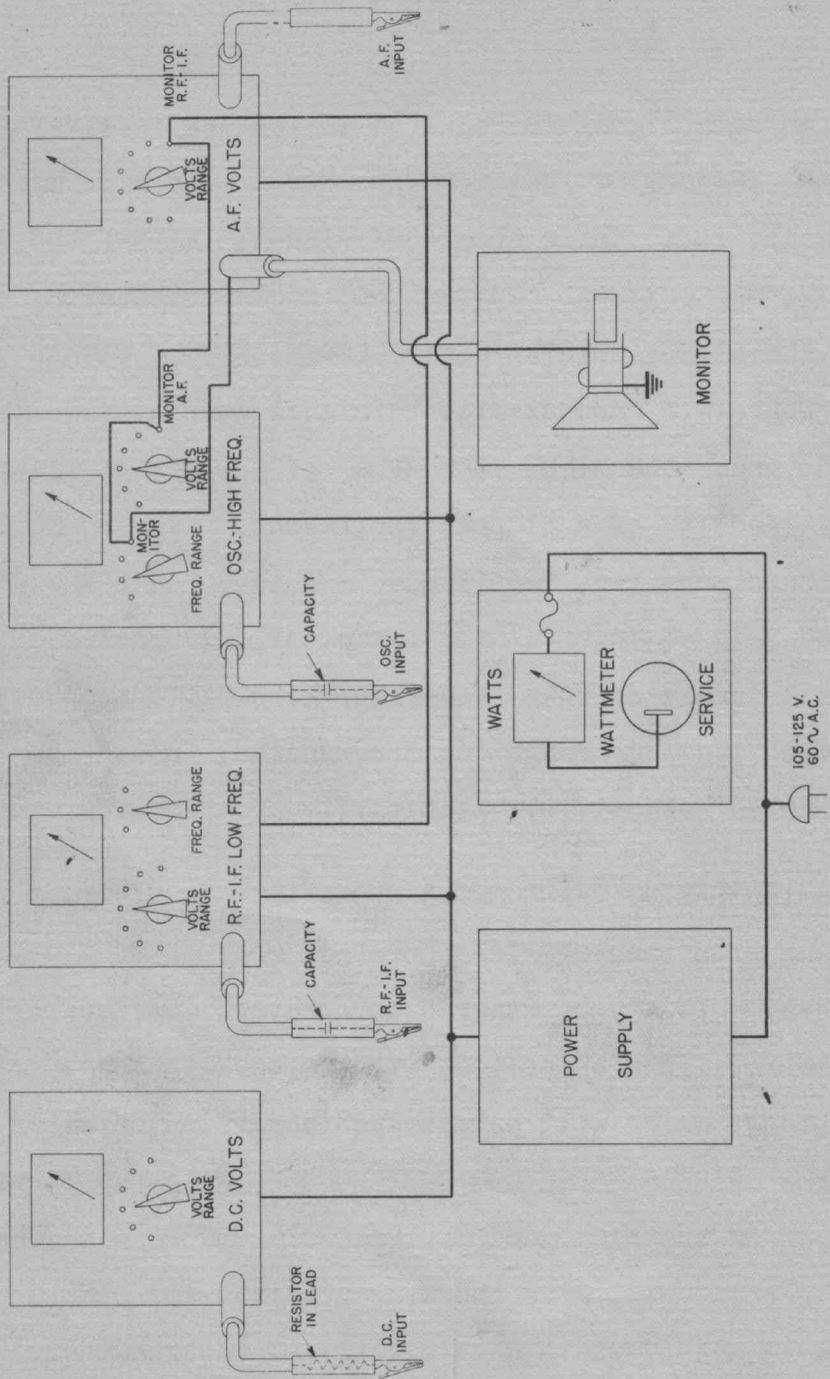

Figure 1.2 - Block Circuit Diagram, Indicating Traceometer, Model 156
c. **Electrical** - The basic electrical circuit of the tracemeter is illustrated in the block form in Figure 1.2. The theory of the operation of the unit is given in greater detail in Section II, Theory.
microphone plug, is used as the lead in making oscillator-high frequency r-f measurements. The alligator clip may be unscrewed, leaving a pin tip for making contact at the point of measurement. As illustrated in Figure 1.2, a capacity has been built into the lead.
5. A 42" shielded special low capacity cable, terminated at one end with an alligator clip and at the other with a shielded microphone plug, is used as the lead in making r-f i-f measurements. The alligator clip may be unscrewed, leaving a pin tip for making contact at the point of measurement. As illustrated in Figure 1.2, a capacity has been built into the lead.